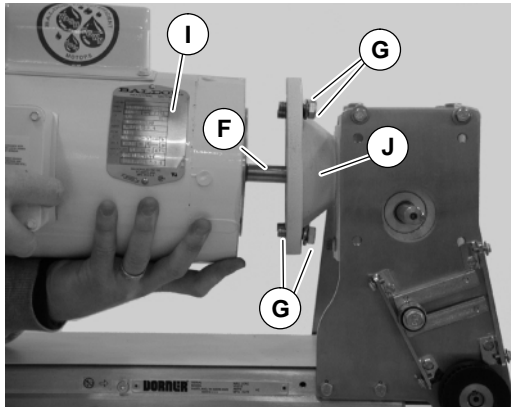

Figure 29
- Attach new gear reducer to top mount with screws (Z).
- With key (F of Figure 29) in keyway, slide motor (I) and gear reducer (J) together. Install screws (G) and tighten.